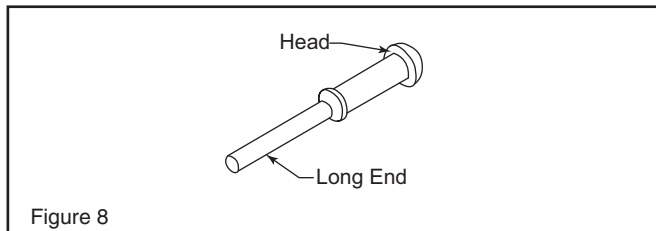

Figure 8
2. Obtain a rubber pull seal from the hardware kit (Part Number 315 2569 001). An extra pull seal is also provided (Figure 8).